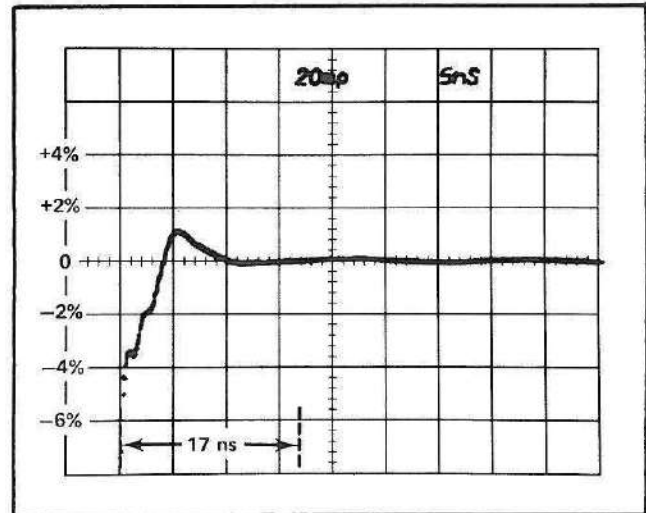

Fig. 5-9. Pulse aberrations of the S-6, S-54 and 7S12 system.
e. Set the mp/DIV switch at 20 and place the step near the left edge of the graticule. See Fig. 5-9 for this waveform.